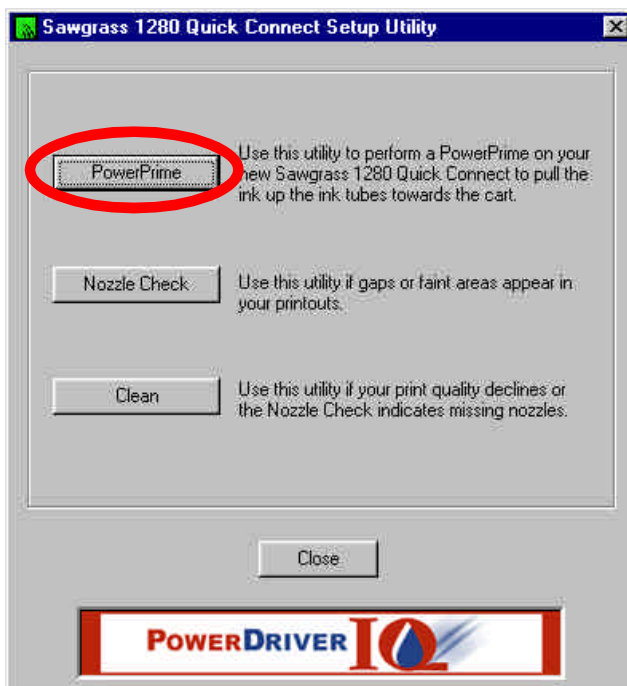

Fig. 2
- On the Setup Utilities screen click the **PowerPrime** button; see Fig 2.